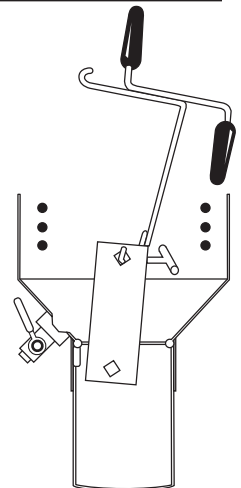

FIGURE 5
15. Lower Heat Plate into collector using basket drain hook (Figure 5).